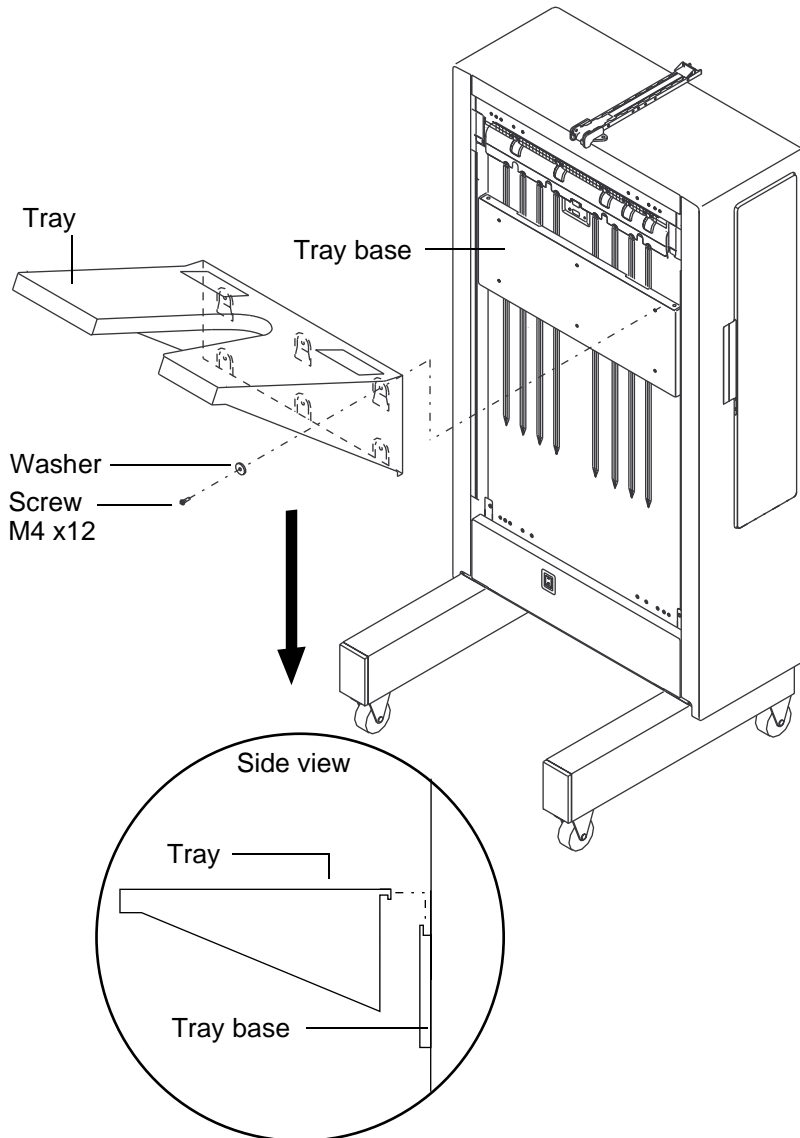

Figure 6 Attaching the tray to the HCO
Step 2 Slip the hooks on the back of the tray over the tray base. Use the six screws (M4 x 12) and washers to attach the tray to the tray base. See Figure 6.